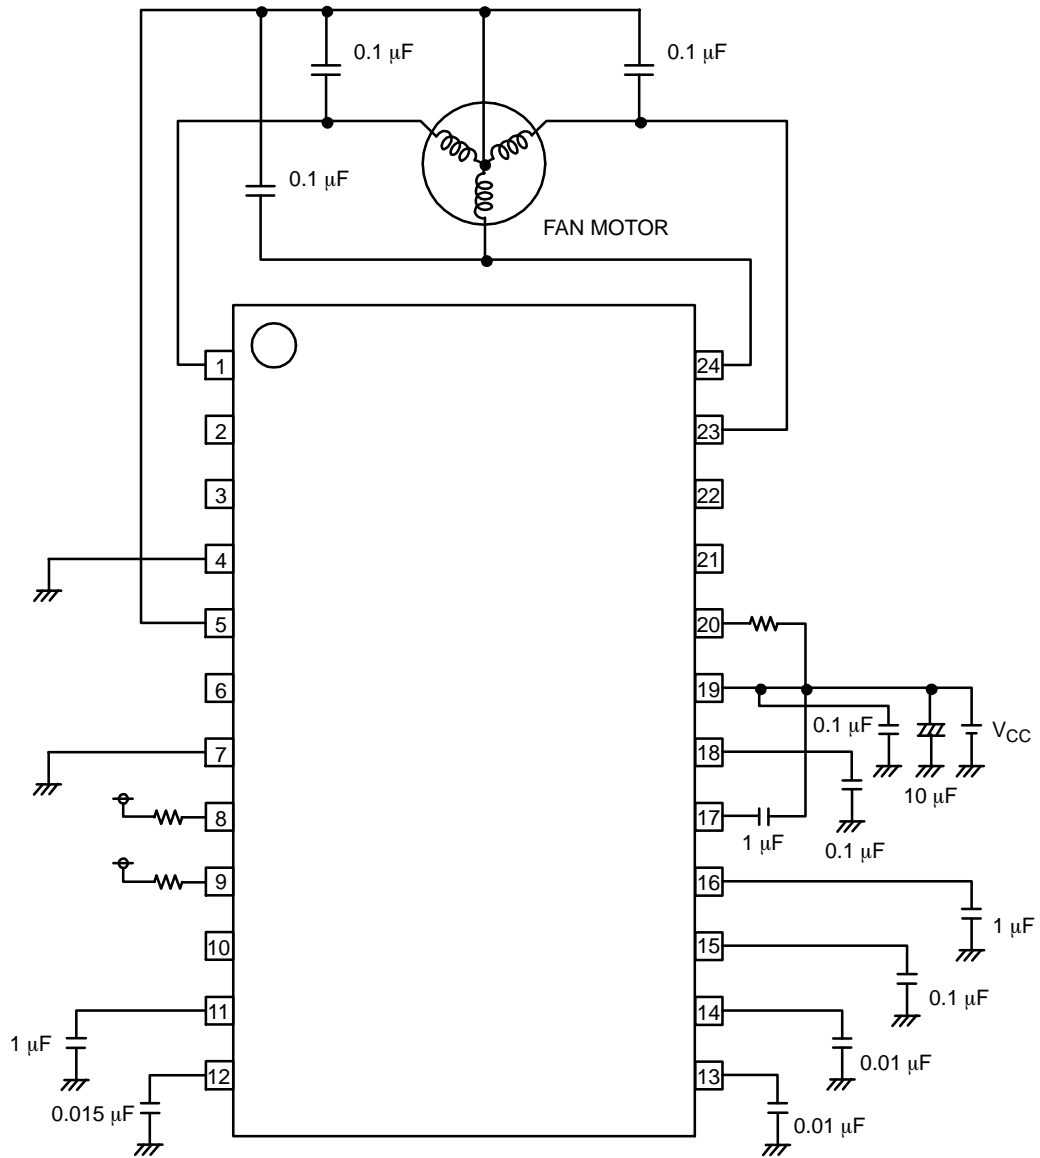

Figure 3. Application Circuit Example
* Each fixed number in the following Figure 3, is the referential value.